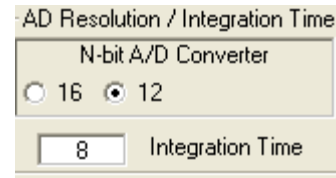

FIGURE 19.
- Integration Time** in Figure 19 corresponds to the resolution of the internal ADC and the number of bits allocated to representing count. Higher resolution (more bits) requires a large number of counts and will need longer acquisition (integration) time.